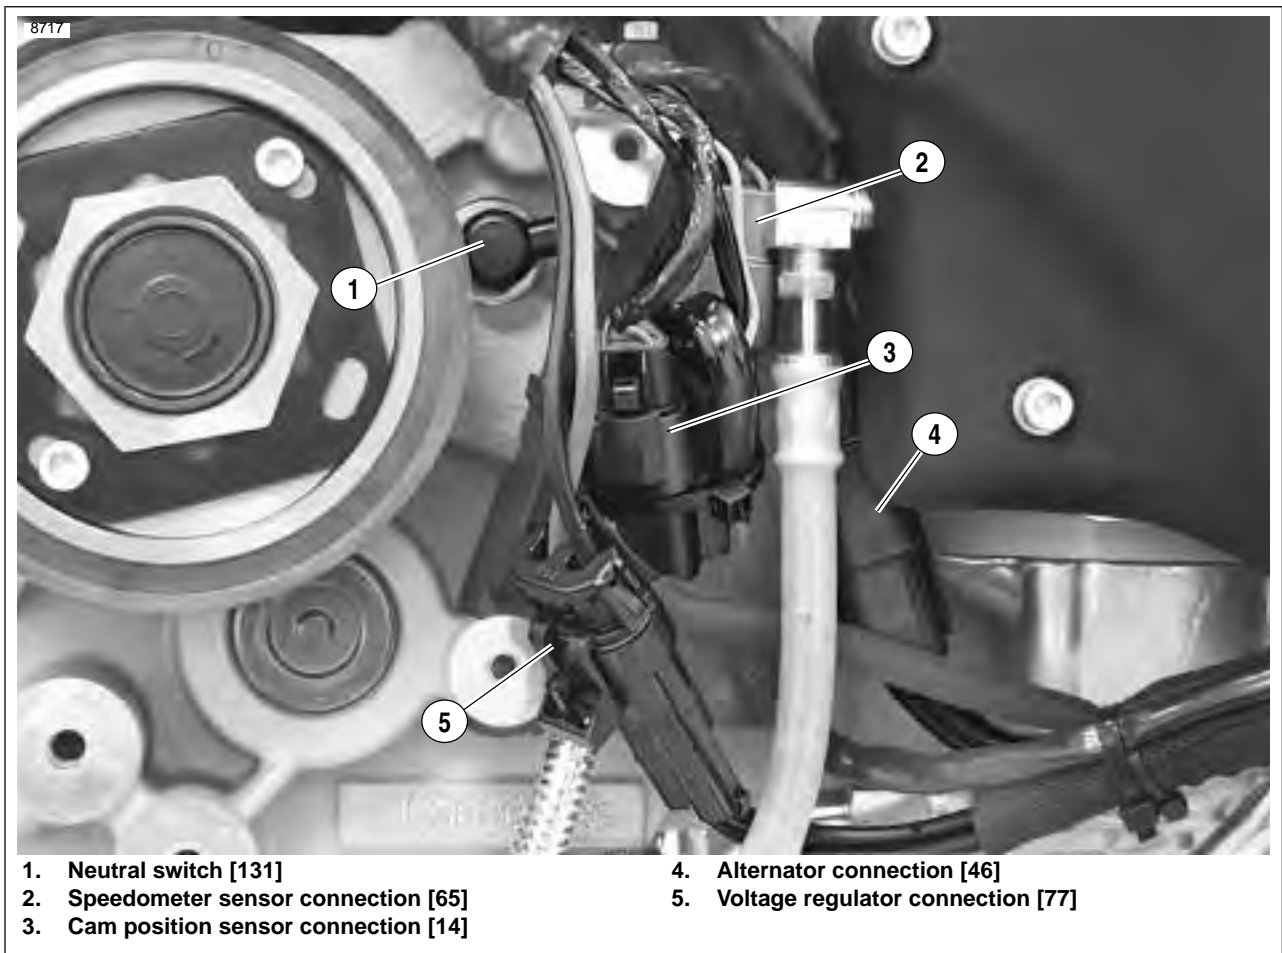

Figure 3-24. Electrical Connections
- c. See Figure 3-24. Unplug regulator harness, (2) plugs
32. See Figure 3-24. Disconnect electrical components: